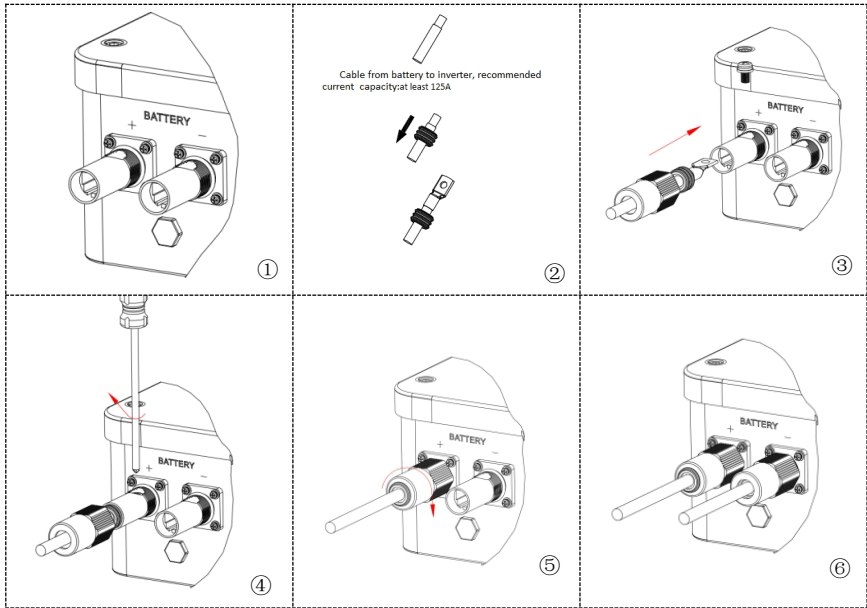

Fig.4-3 Install battery connection
Step 2 Remove the insulation layer of the positive and negative battery cables using a cable disconnecter, as shown in the figure. The recommended length is 8-10mm, Insert the stripped positive and negative power cables into the positive and negative metal terminals respectively and crimp them using a clamping tool, as shown in Fig. 4-3(a)②.
Step 3 Insert the cable input terminal into the cable, insert the bent power cable into the battery wiring port on the inverter, and ensure that the power cable is fixed in place, as shown in Fig. 4-3(a)③.
Step 4 Use a screwdriver to secure the cable, as shown in Fig. 4-3④.
Step 5 Align the input terminal with the battery port on the inverter and tighten it, as shown in Fig. 4-3⑤⑥.